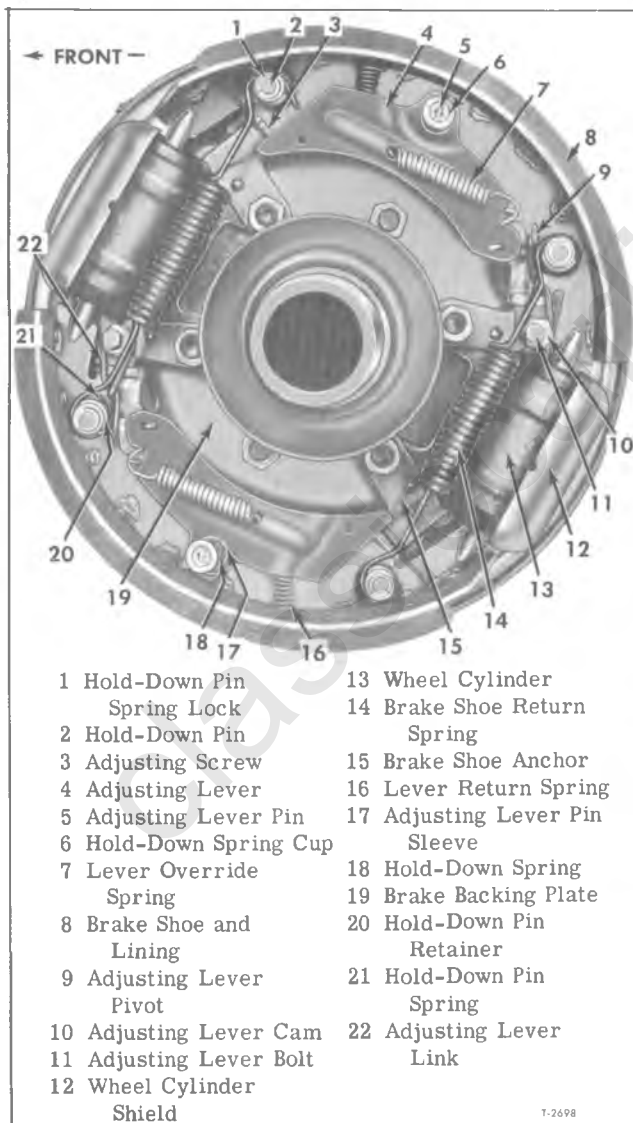

Figure 36—Twin-Action Rear Brake Assembly (Automatic Adjuster)
(Refer to Figure 36)
8. Thread the adjusting screw out of the brake shoe anchor and remove and discard the friction spring (not shown in figure 36).